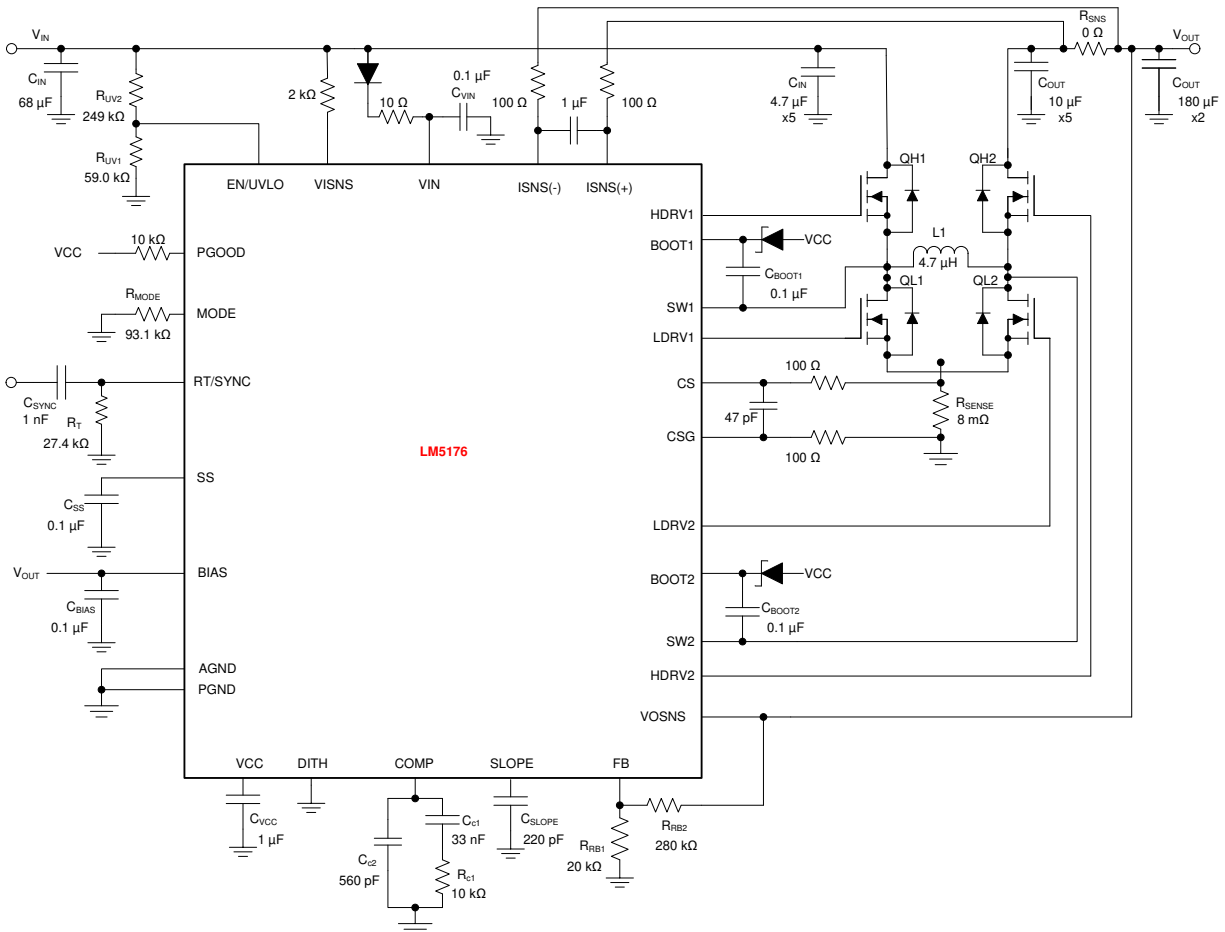

图 8-1. LM5176 Four-Switch Buck Boost Application Schematic
A filter network as shown in 图 8-1 is often used across the ISNS(+) and ISNS(-) pins to filter the ripple in the average current sense signal.
For application where input voltage is higher than 40 V, a 2-k Ω resistor in series with the VISNS pin is required as shown in 图 8-1.
The LM5176 has a gm error amplifier for loop compensation. The gm amplifier output (COMP) range is 0.3 V to 3 V. Connect an R_{c1} - C_{c1} compensation network between COMP and ground for type II (PI) compensation (see 图 8-1). Another pole is usually added using C_{c2} to suppress higher frequency noise and switching frequency ripple.
The low-side gate drivers are powered from VCC and the high-side gate drivers HDRV1 and HDRV2 are powered from bootstrap capacitors C_{BOOT1} (between BOOT1 and SW1) and C_{BOOT2} (between BOOT2 and SW2), respectively. The C_{BOOT1} and C_{BOOT2} capacitors are charged through external Schottky diodes connected to the VCC pin as shown in 图 8-1.
Typically, a combination of ceramic and bulk capacitors is needed to provide low ESR and high ripple current capacity. The complete schematic in 图 8-1 shows a good starting point for C_{OUT} for typical applications.
The maximum RMS current occurs at $D = 0.5$, which gives $I_{\text{CIN(RMS)}} = I_{\text{OUT}} / 2 = 3 \text{ A}$. A combination of ceramic and bulk capacitors should be used to provide a short path for high di/dt current and to reduce the output voltage ripple. The complete schematic in 图 8-1 is a good starting point for C_{IN} for typical applications.
For some application circuits, it can be required to add a filter network to attenuate noise in the CS and CSG sense lines. See 图 8-1 for typical values. The filter resistance should not exceed $100 \text{ }\Omega$.